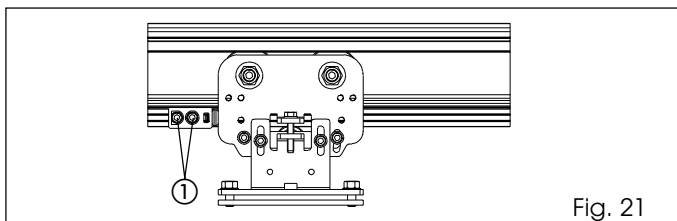

Fig. 21
- Loosen the two hexagon head screws as shown in figures 21 and 22 ref. ①.